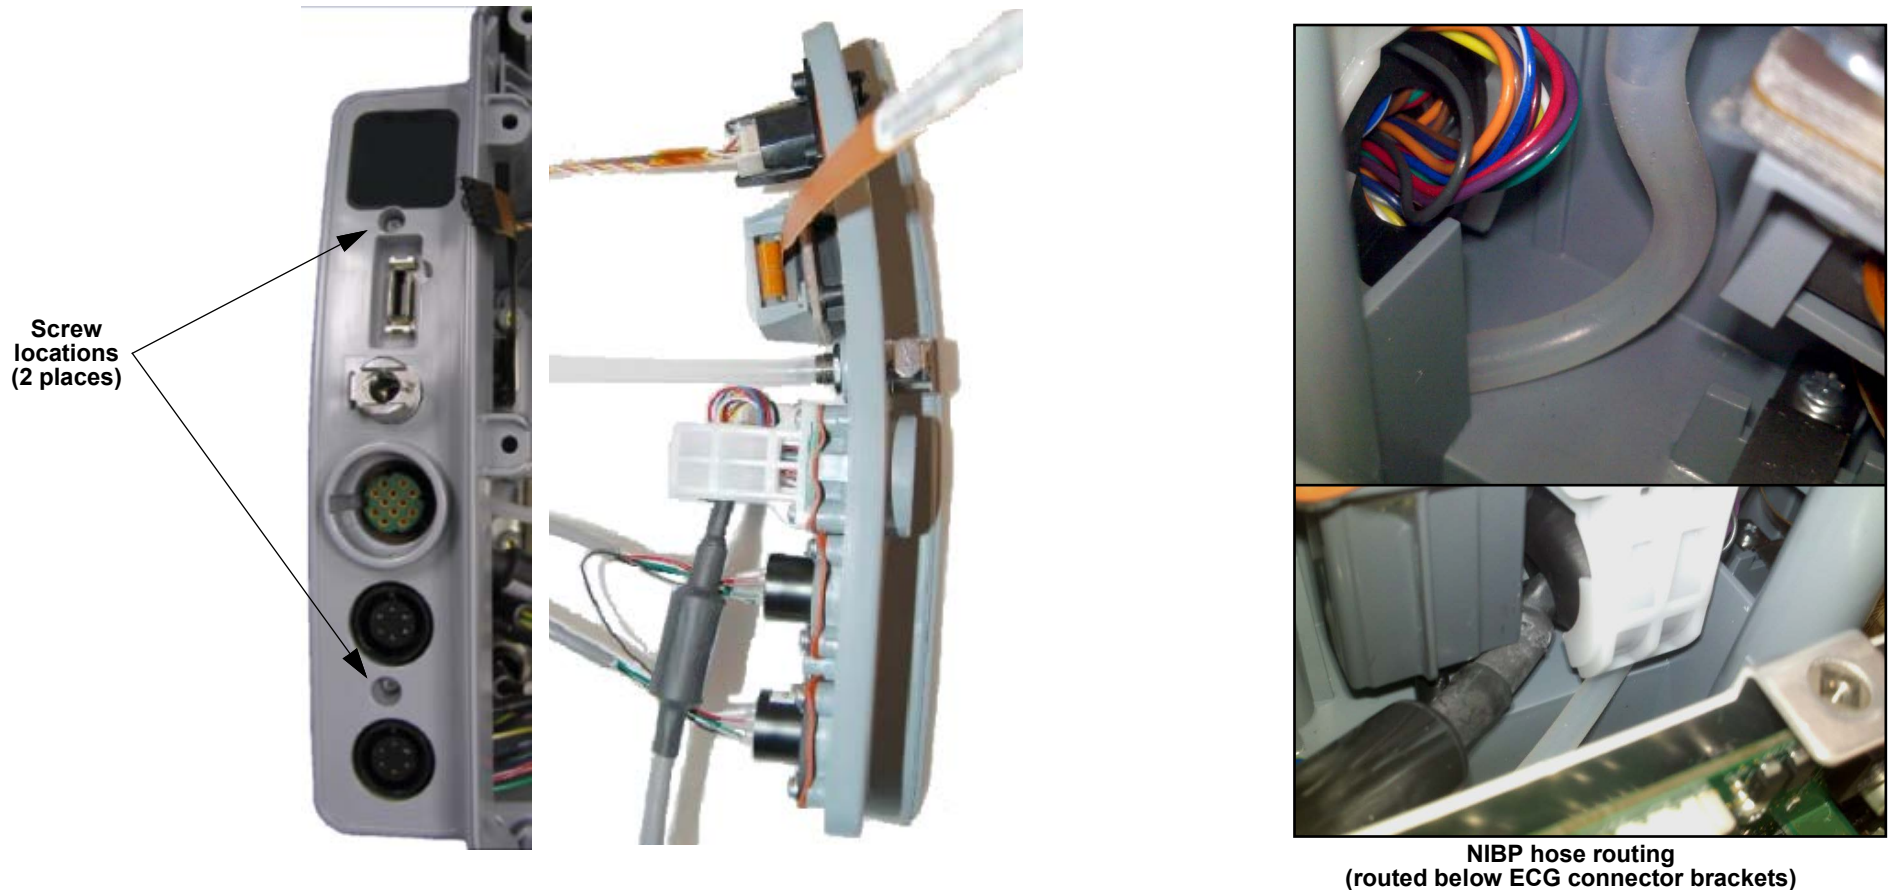

Figure 8.121—Parameter bezel component orientations
**NOTE: Ensure the NIBP hose isn't pinched by the ECG Brackets or rear case standoff. NIBP hose movement should be unrestricted in bezel cavity** (see Figure 8.121 on p. 323).